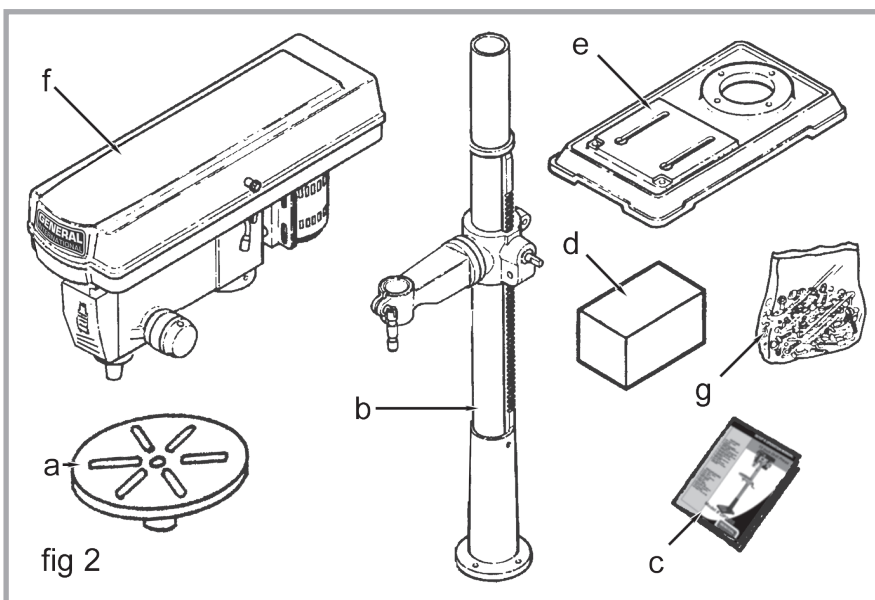

fig 2
Separate all parts from the packing materials and check carefully against fig 2 & 3 and the list below.
- Lift the drill press head assembly (f, fig 2) carefully and slide the mounting hole of the drill press head over the top of the column. Be sure the head is seated properly on the column.